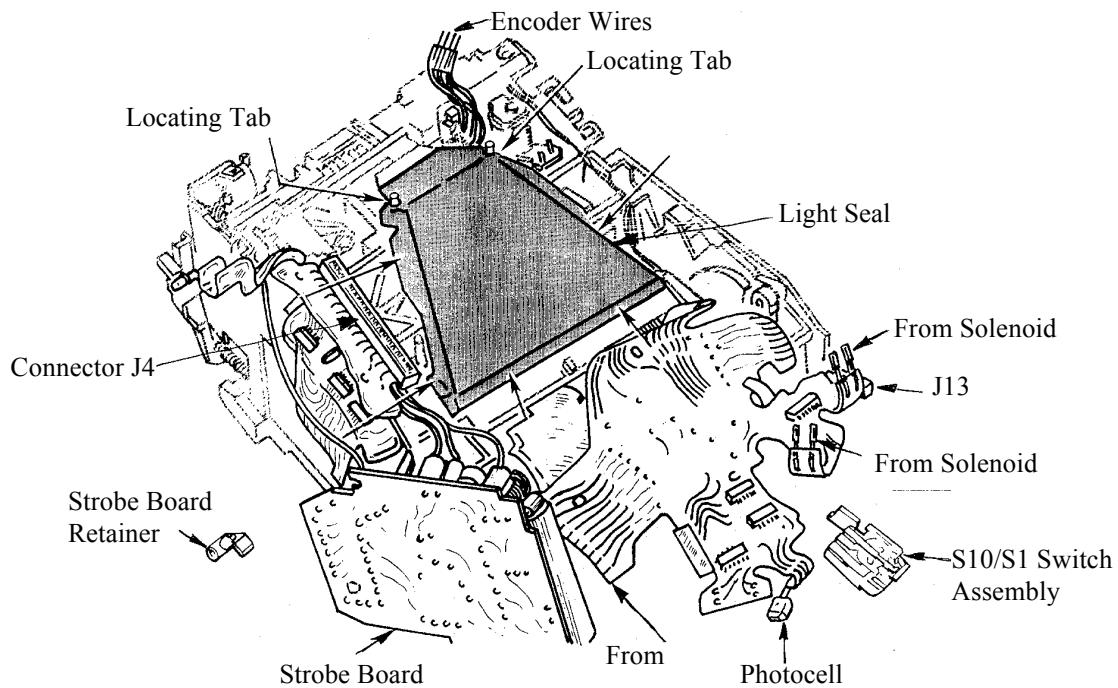

Figure 4-29 Replacing a Defective Mirror
- f. Carefully lift the Flex Assembly and bend it back as shown in Figure 4-29.
- k. Peel off the adhesive backing from the new Light Seal. Orient the Light Seal over the Cone Assembly, lining up the holes in the light seal with the two locating tabs at the top of the Cone. Carefully work the Light Seal into position as shown in Figure 4-29.